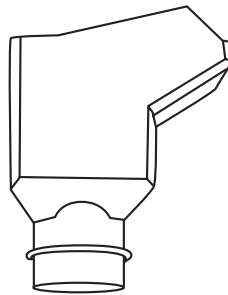

Fig. 2 — Unused Drain Fitting
4. Remove unused drain fitting on the air seal by removing screw (See Fig. 2).